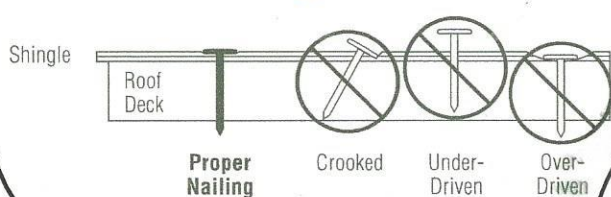

Figure 8-1: Fastening three-tab, strip-type shingles.
- * ◆ Be sure fasteners are driven straight, with nail heads flush with the shingle surface and never cutting into the shingle (Figure 8-1).